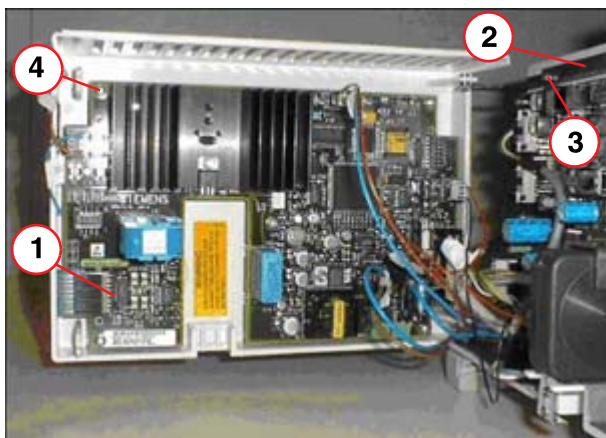

Fig. 7: Opened collimator
- Remove the 2 screws on the right-hand side of the collimator and open the front cover. The board D2 is now visible in the front cover (1/Fig. 7 / p. 20).
- Remove the attachment of the front cover (2/Fig. 7 / p. 20) by loosening the 2 Allen screws (3/Fig. 7 / p. 20), detach the front cover and set it aside.
- Remove the 5 screws that attach board D2 to the front cover (4/Fig. 7 / p. 20).
- Install the attachment for the front cover (2/ Fig. 7 / p. 20) and the front cover itself.